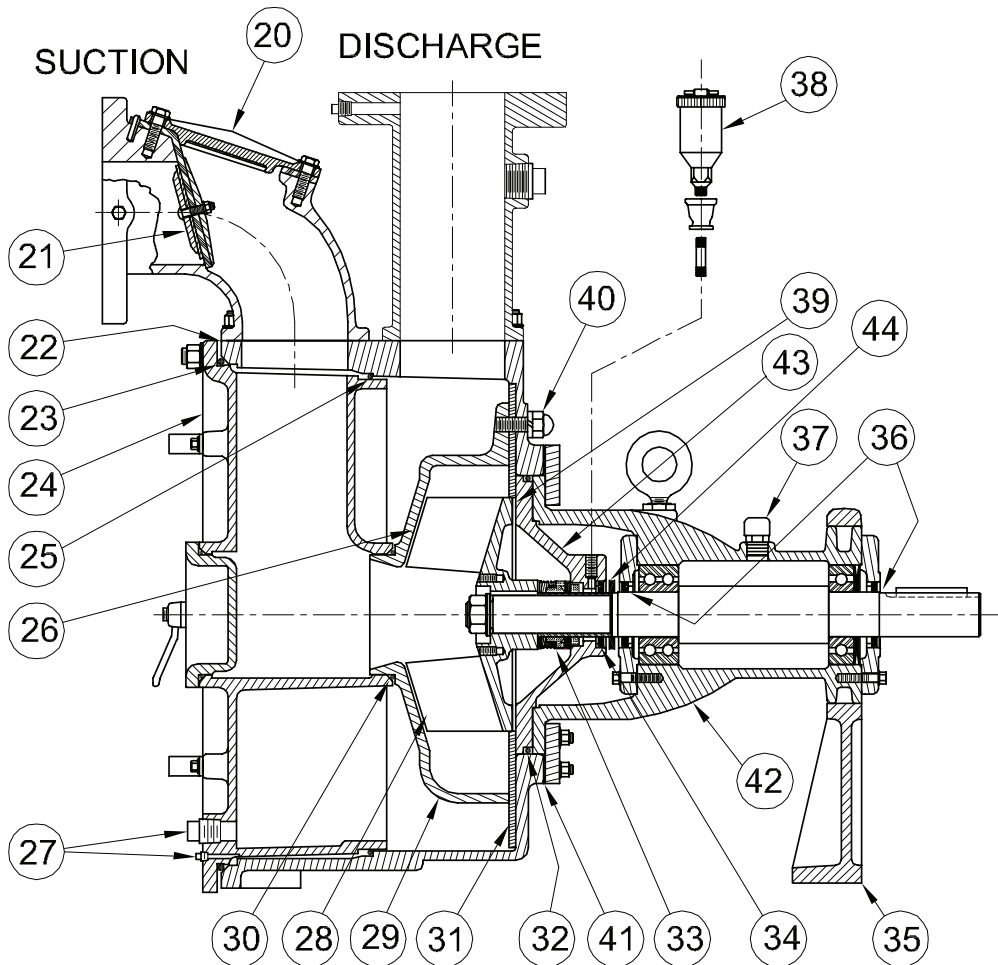

FIGURE 3
See Figure 3 For Typical Pump Cut-away, Actual cross sections at back of manual.
Remove hatch cover (24), by removing wing nuts and prying the cover off. Now remove capnuts (40) and pull the volute (29) and seal Plate (31) out of the pump case, (See Figure 3). Remove the impeller nut, it is a standard right hand thread, remove impeller washer, and then remove the impeller (28). The impeller has been provided with two drilled and tapped holes for a wheel puller, if necessary use a wheel puller to remove the impeller.